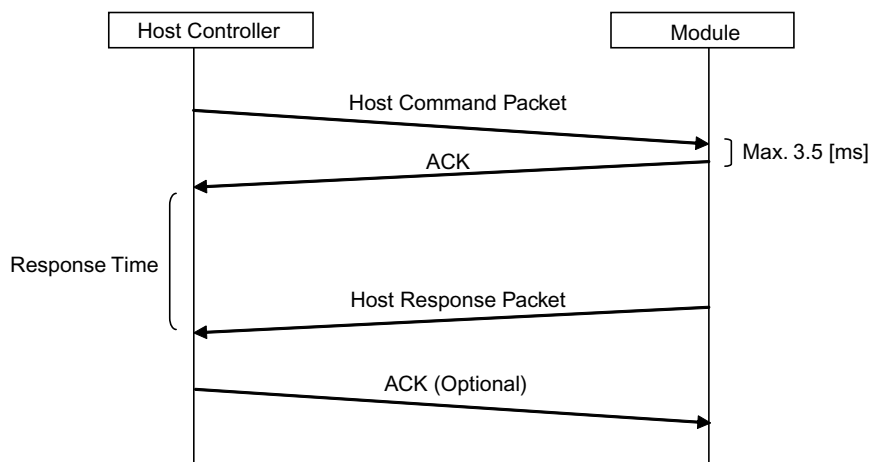

Fig. 3-1: Communication Protocol between Host Controller and Module
A) Fig. 3-1 shows a typical communication sequence on the data link level.